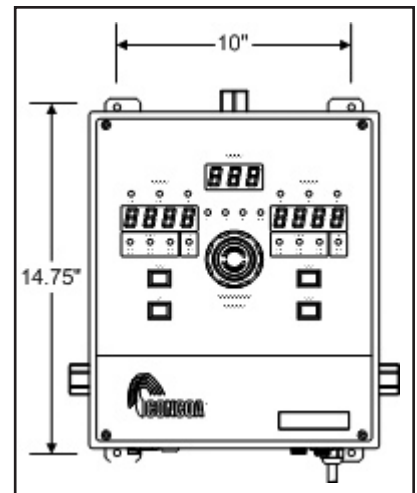

Figure 4 - IntelliSwitch®
9. As illustrated in Figure 4, the IntelliSwitch enclosure has the mounting bracket holes integrated at each corner. Position the IntelliSwitch, with attached MicroManifold(s), such that the inlet connections are centered on the horizontal line and the outlet on the vertical line.